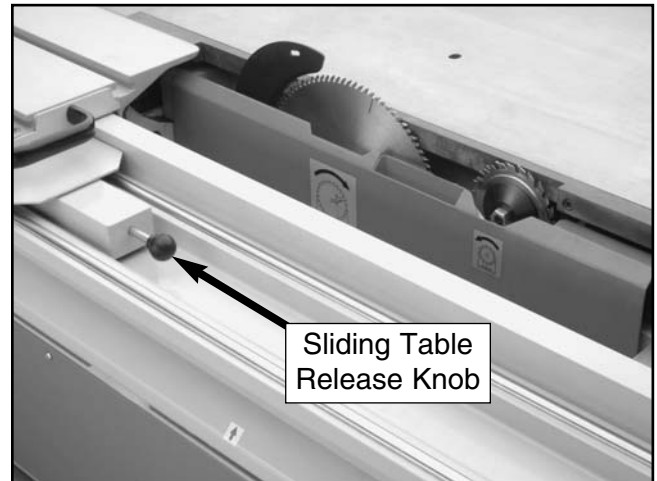

Figure 80. Blade assembly exposed.
3. Move the sliding table all the way to the left and push the release knob to expose the internal blade guard that covers the blades and riving knife, as shown in **Figure 80**.